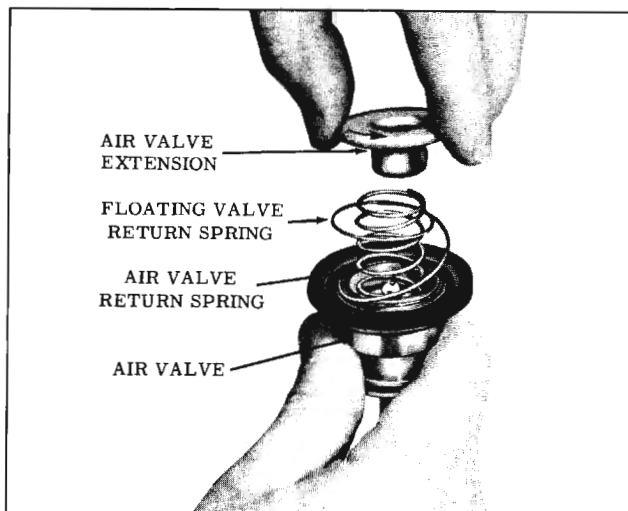

Fig. 7-23 Assembling Operating Rod
8. Position the air valve reaction extension over the springs. Compress springs, then rotate reaction extension until it locks on the air valve. (Fig. 7-23)